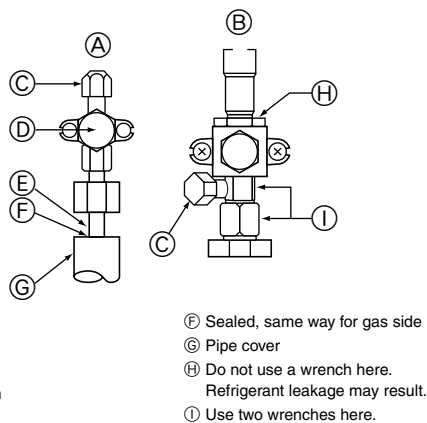

Fig. 4-5
- ① Perform refrigerant piping connections for the indoor/outdoor unit when the outdoor unit's stop valve is completely closed.
- ② Vacuum-purge air from the indoor unit and the connection piping.
- ③ After connecting the refrigerant pipes, check the connected pipes and the indoor unit for gas leaks. (Refer to 4.4. Refrigerant pipe airtight testing method)
- ④ A high-performance vacuum pump is used at the stop valve service port to maintain a vacuum for an adequate time (at least one hour after reaching -101 kPa (5 Torr)) in order to vacuum dry the inside of the pipes. Always check the degree of vacuum at the gauge manifold. If there is any moisture left in the pipe, the degree of vacuum is sometimes not reached with short-time vacuum application. After vacuum drying, completely open the stop valves (both liquid and gas) for the outdoor unit. This completely links the indoor and outdoor coolant circuits.
- ⑤ Failure to replace and tighten the caps may result in refrigerant leakage. In addition, do not damage the insides of the valve caps as they act as a seal to prevent refrigerant leakage.
- ⑥ Use sealant to seal the ends of the thermal insulation around the pipe connection sections to prevent water from entering the thermal insulation.
4.4. Refrigerant pipe airtight testing method (Fig. 4-5)